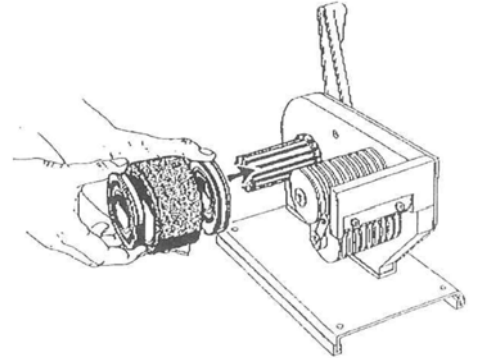

Figure 1
- 2) Place the roll of Tape onto the Tape Spool Holder located at the back of the machine. When the end of the tape is pulled it must come towards the front of the machine. See Figure 1